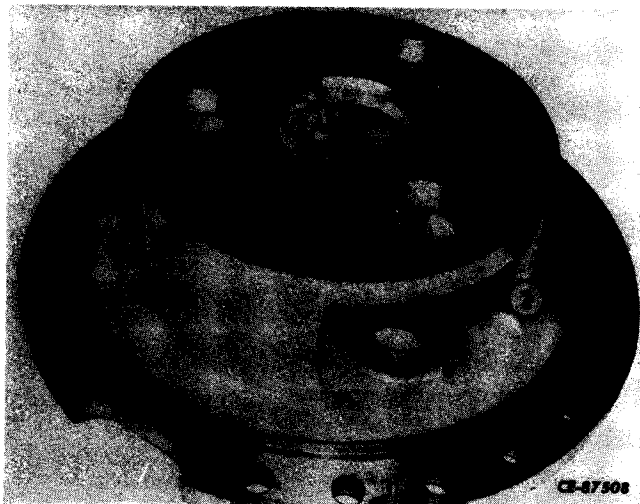

Figure 6-41
Place spacers (2, Fig. 6-41) in position in recesses (1) in carrier.